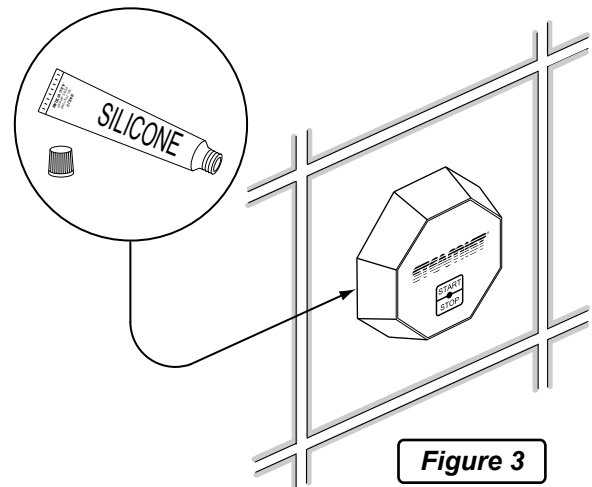

Figure 3
- h) After the control is in place, apply silicone (supplied) around the control to form a water tight seal (see Figure 3).